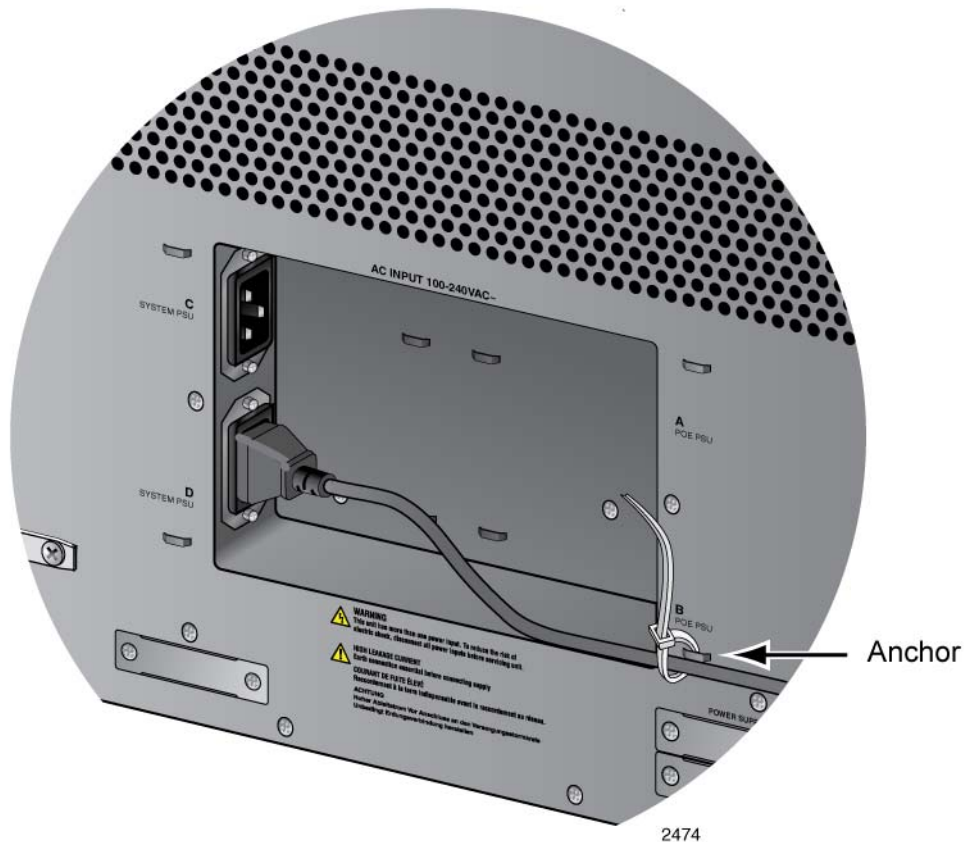

Figure 107. Securing the Power Cord for the AT-SBxPWRSYS1 or AT-SBxPWRSYS2 AC Power Supply to an Anchor
3. Use the twist tie included with the power supply to secure the cord to an anchor on the chassis to protect it from being accidentally pulled out, as shown in Figure 107 on page 176.